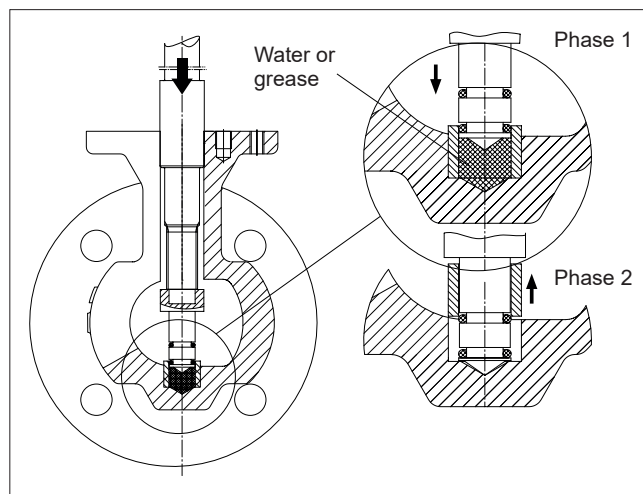

Fig. 20 Removal of the lower bearing
- Remove the valve from the pipeline and dismantle the packing (69) as described above (see Section 4.3).
- Remove the locking shoulders of the insert (2) and unscrew the insert using a special tool, see exploded view and parts list in Section 10. The special tool is available from the valve manufacturer.
- Remove the back seal (63) and unscrew the seat (7) from the valve body.
- Unfasten the nuts (17) of the bonnet. Pull the bonnet out and remove the bonnet seal (66) from under the bonnet.
- Pull the stem (5) out from the body (1).
- Remove the plug (3) from the body through the flow opening.
- Detach the upper bearing (15) from the body by tapping it through the stem bore, using a suitable bar. **Do not use the stem!**
- Detach the lower bearing using a special tool and drive shaft. Set up the tool as illustrated in Fig. 20. Use a soft hammer to carefully hit shaft end. This will detach the bearing.